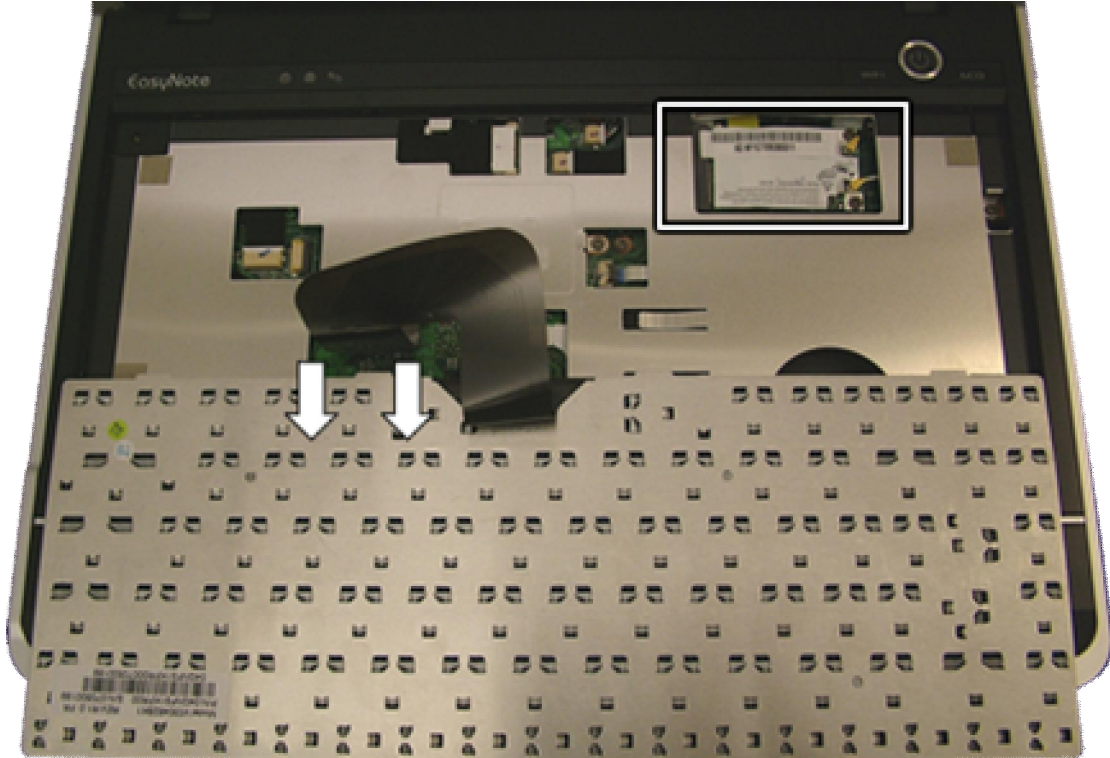

Fig. 14 *The keyboard flat cable and wireless LAN adapter.*
2. The wireless LAN adapter is located right beneath the WiFi button on the top chassis (see Fig. 14).